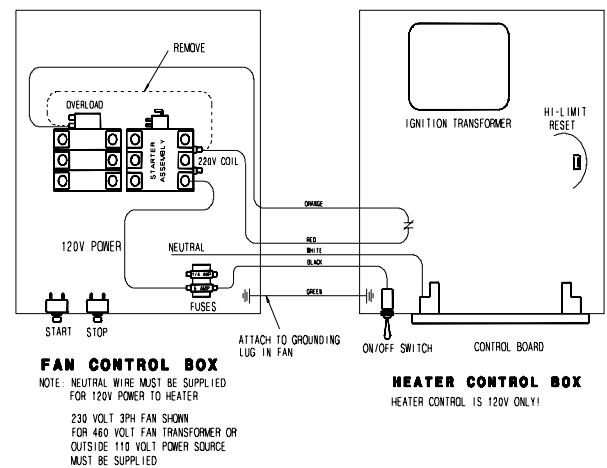

Figure 2: Wiring diagram for the fan and heater unit.
4. Orange and red wires should be connected in series with coil in fan. When contacts in heater between these wires open fan shuts down. Recommended wiring is shown in Figure 2.